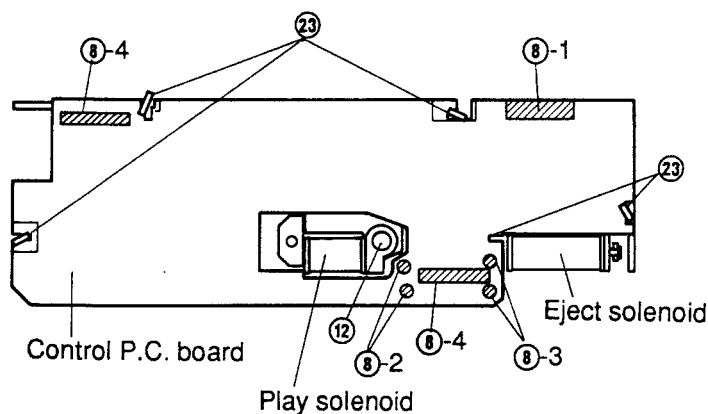

Figure 11
- (2) Remove solder ⑧-1, and remove the parallel wire (5P) from the control PC board as shown in Figure 11.
- (1) Remove the two solders ⑧-2 as shown in Figure 11.
- (2) Remove one screw ⑫ and remove the solenoid as shown in Figure 11.
- (3) Mount the new solenoid following the removal steps in the reverse order.
- (1) Remove two solders ⑧-3. Take care not to loose the tube that protects the wire. (Refer to Figure 11.)
- (1) Remove seven solders ㉑ and remove the three parallel wires and the wires of the eject solenoid and of the play solenoid as shown in Figure 11.
- (2) Remove the claws ㉒ and remove the PC board as shown in Figure 11.
- (3) After replacing the old PC board with a new one, mount it following the removal steps in the reverse order.